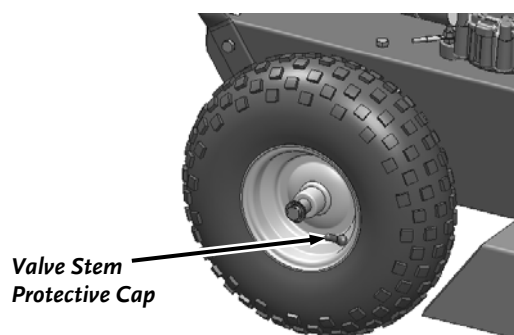

Figure 3
1. Remove the Valve Stem Protective Cap (**Figure 3**) and check the tire pressure with a tire pressure gauge.